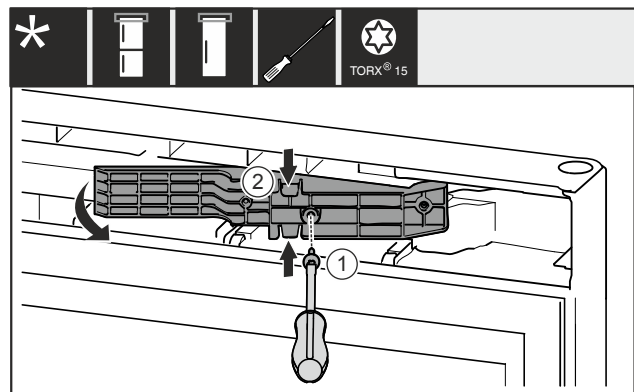

Fig. 13*
- ▶ Remove the screw Fig. 13 (1)*
- ▶ Gently press the adapter piece Fig. 13 (2) together at the top and bottom and pull it out.*